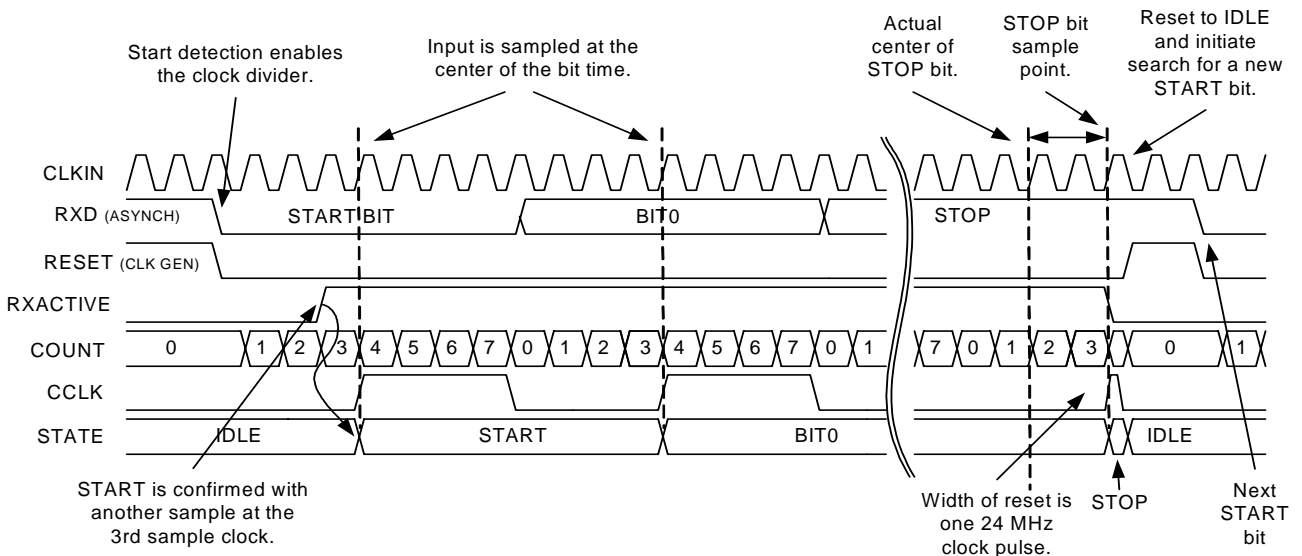

Figure 17-27. Clock Generation and Start Detection
**Clock Generation and Start Detection.** The input clock selection is a free running 8X over-sampling clock. This clock is used by the clock divider circuit to generate the block clock at the bit rate. As shown in Figure 17-27, the clock block is derived from the MSB of a 3 bit counter, giving a sample point as near to the center of the bit time as possible. This block clock is used to clock all internal circuits.
As shown in Figure 17-27, the internal bit clock (CCLK) is running slower than the external TX bit clock and the STOP bit is sampled later than the actual center point. After the STOP bit is sampled, the 24 MHz reset pulse forces the Receiver back to an idle state. In this state, the next START bit search is initiated, resynchronizing the RX bit clock to the TX bit clock.